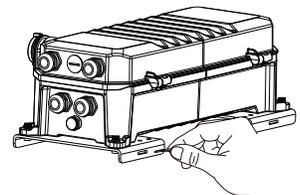

Fig. 24
- 1.4. Insert pole bands into both remote driver mounting plates (Fig. 24).